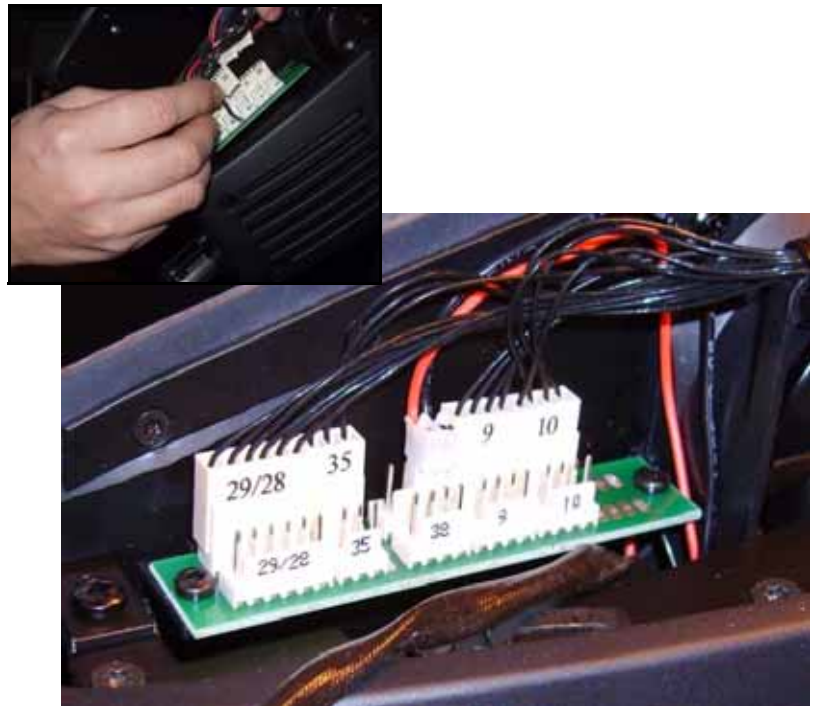

Figure 40
44. Disconnect all the outer row of zoom/focus module multi-connectors plus number 38 connector on the inner row on the left side of the head, leaving the connectors as shown in Figure 40.